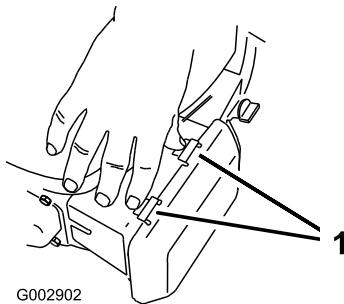

Figure 35
1. Press down on the latch tabs on top of the air-cleaner cover (Figure 35).